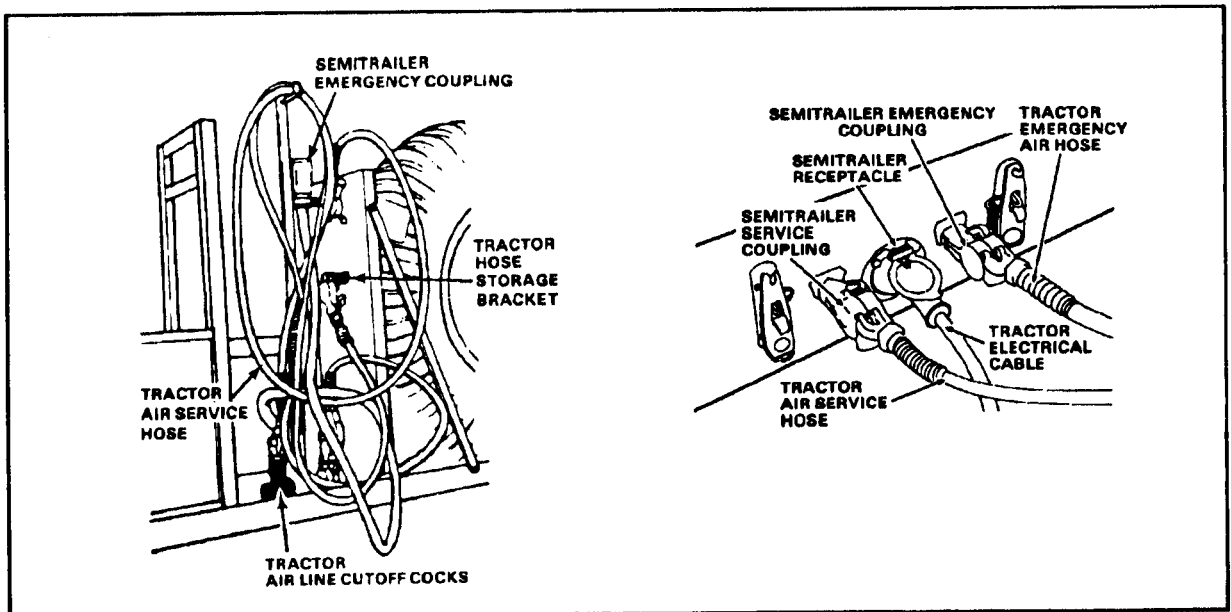

FIGURE 18-5. Coupling Receptacles and Intervehicular Cables.
- Connect the electrical cable to the electric receptacle on the semitrailer (Figure 18-5).